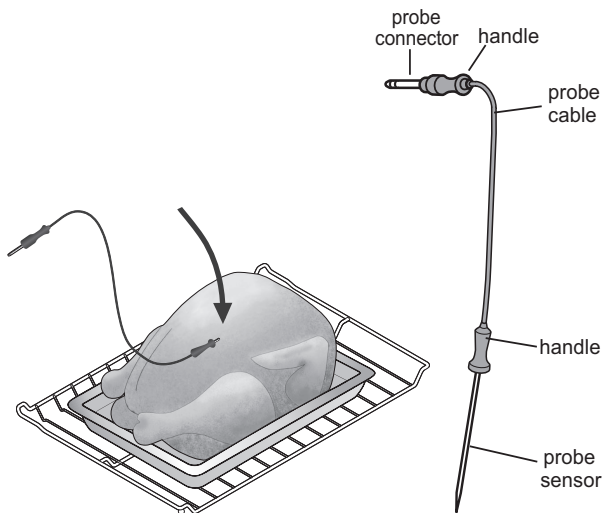

Figure 21: Components of meat probe (top) Proper placement for poultry (bottom)
- For whole poultry or turkey, insert the probe into the thickest part of the breast (Figure 21).